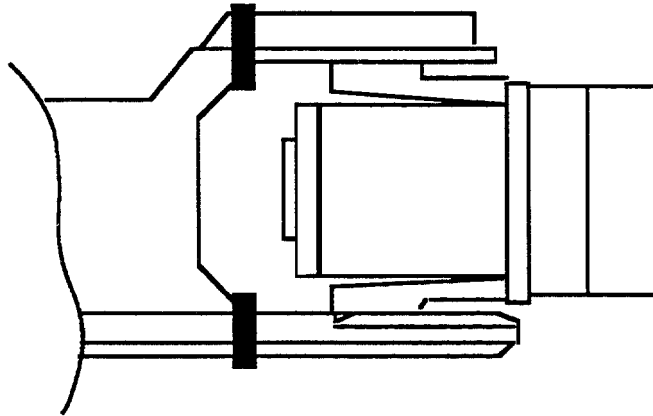

Figure 3 To prevent the wrist from rotating.
2. Attach a hoist to the wrist, so that it cannot rotate. See Figure 3 To prevent the wrist from rotating..